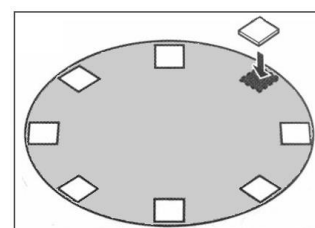

fig. 8
c) Remove the bottom guides and base plates and place the tiles around the circle where the motherboards were, fig. 8.
e) Place each mark around the perimeter of the equidistant plates on a T1 basis. If the tiles are optionally used, place a base plate on each tile T1, Fig 8.